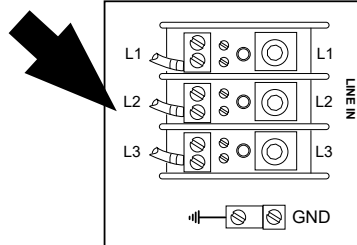

Fig. 6
9. Mount the bracket using two 10-32 Hex screws and grip nuts from the kit (Fig. 6).